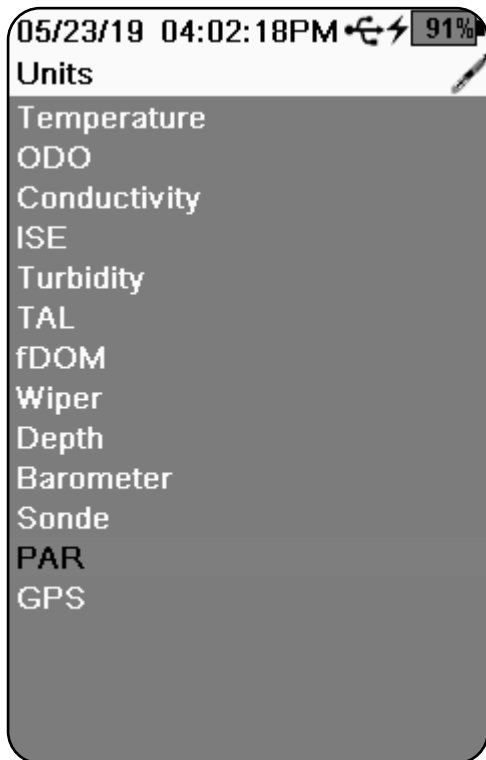
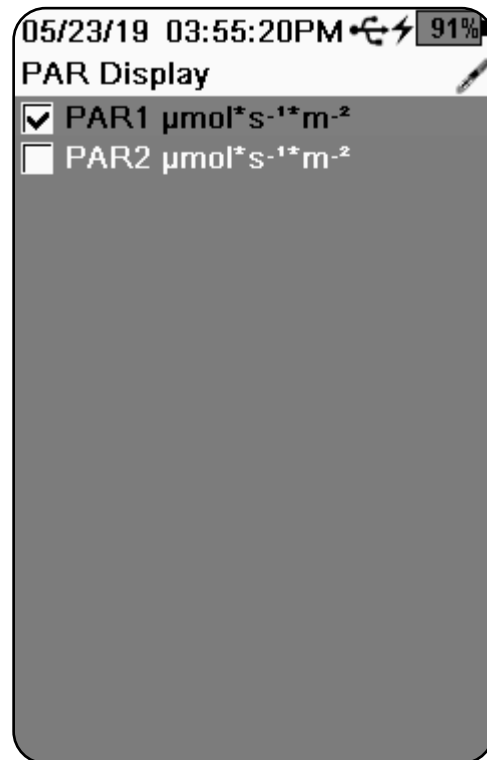

Figure 13 Select PAR from the list of Units
Figure 14 Enable sensors
1. You will first need to enable the PAR(s) sensor in the EXO Handheld. To do so you will need to select **Handheld**, and then select **Display**, and from the list of **Units** select PAR and you will see figure 13. On the next screen you can enable either the PAR sensor or sensors by clicking the boxes shown, figure 14.